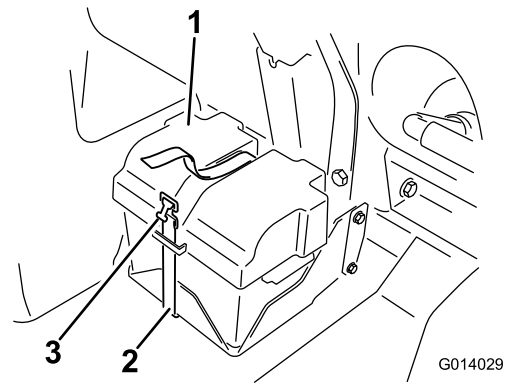
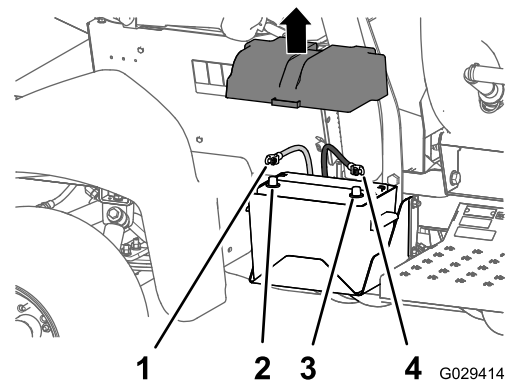

Figure 1
Figure 2
4. Remove the battery cover and disconnect the negative (black—ground) cable from the battery post (Figure 1 and Figure 2).
5. Disconnect the positive (red) cable from the battery post (Figure 2).